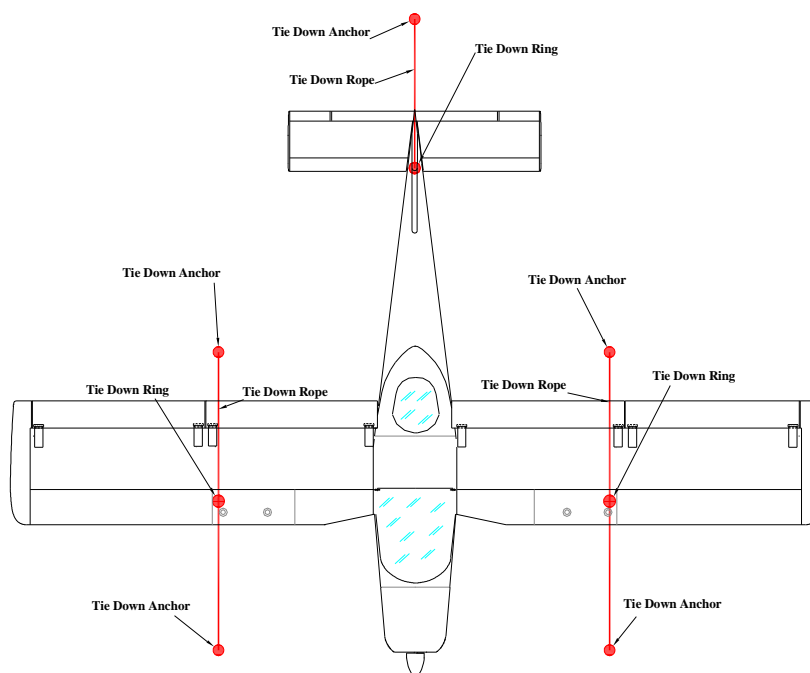

Fig. 8-1. CABLE POSITIONING
5. Secure tie-down ropes to the wing tie-down rings and to the tail ring at approximately 45-degree angles to the ground, in longitudinal direction (see Fig. 8-1).